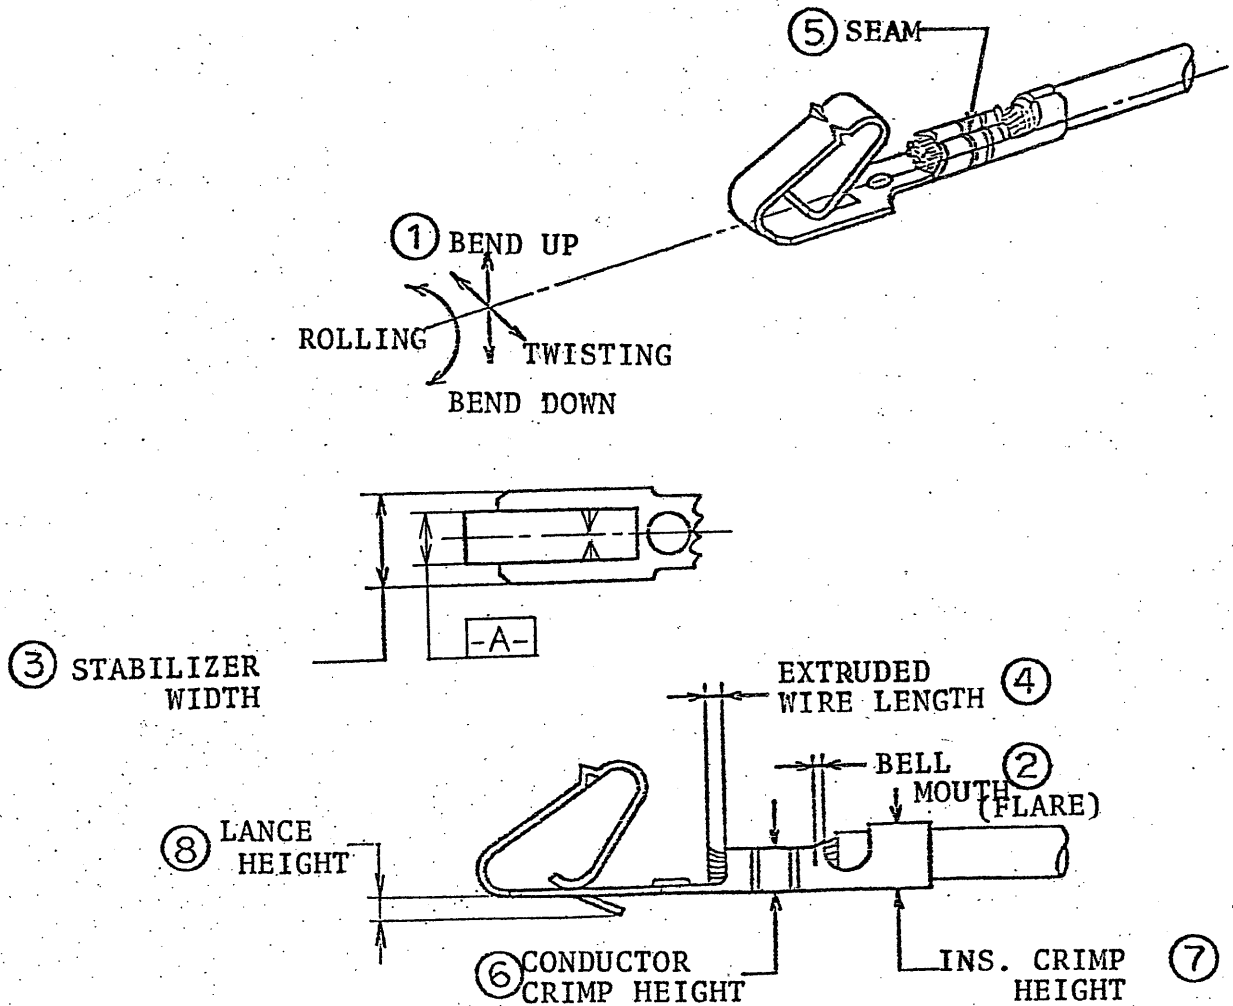

FIG 1
4. CONDITIONS (⑥ and ⑦ of FIG.1)
5. CONDITIONS (⑥ and ⑦ of FIG.1)